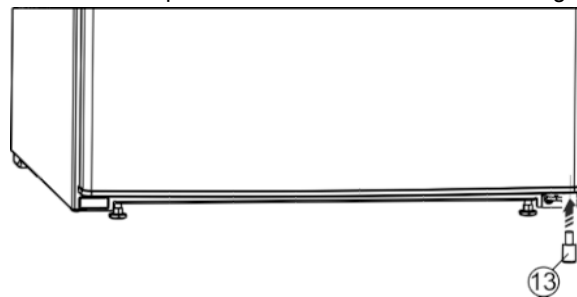

Fig. 8
- Insert the spacer Fig. 8 (13) back under the right-hand side of the door, as it is important for the stability of the appliance.